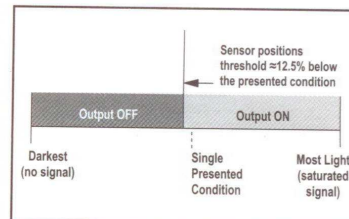

Figure 5. Light SET (Light Operate shown)
- Sets a threshold approximately 12.5% below the presented sensing condition (see Figure 5).